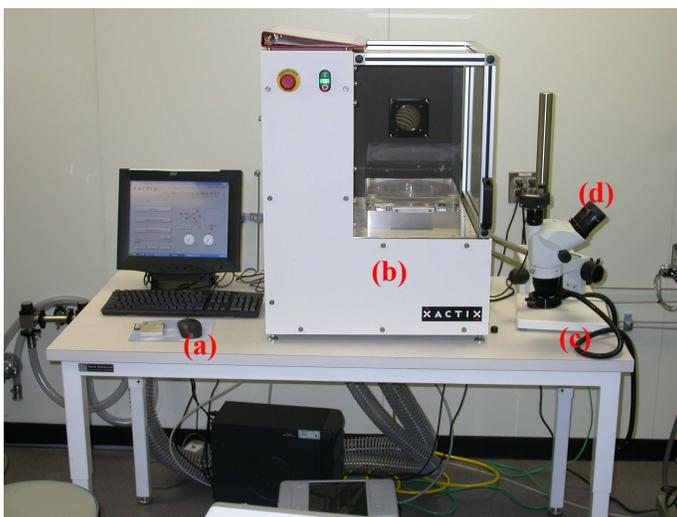

Figure 1.1: Xetch XeF2 etching system,
- The instrument consists of four units: computer, etching machinery, microscope with CCD, and illuminator. (Figure 1.1)